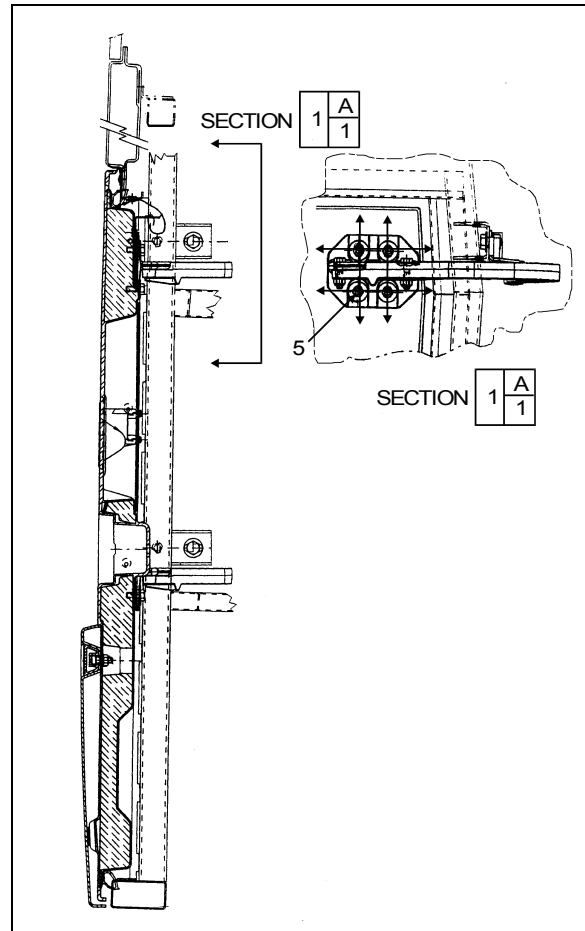

FIGURE 59: FRONT SERVICE DOOR
7. Loosen screws (5, Fig. 59) to allow the door to be shifted "UP or DOWN".